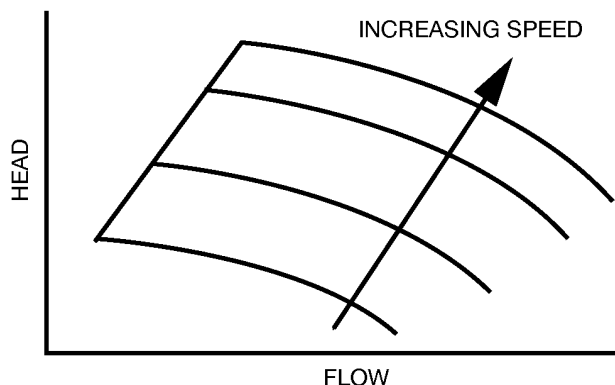

Figure 6. Effect of Speed on Head.
- Increasing speed imparts higher kinetic energy, which converts to higher pressure (potential energy) (Figure 6).